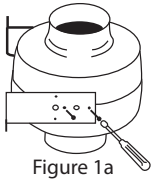
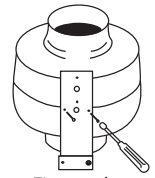
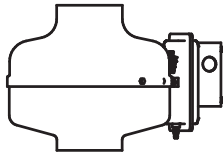
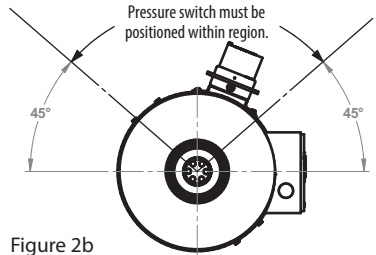

Figure 1a
Figure 1b
Figure 2a
Figure 2b
Attach mounting brackets to the fan housing (Figure 1a or Figure 1b). Please note the airflow direction arrow located on the box cover. Secure the fan to a support at the selected location. If mounting vertically (Figure 2a), ensure the nipple connection on the pressure switch is facing downwards. If mounting horizontally (Figure 2b), the pressure switch must be positioned within the region shown. Ensure the terminal box is positioned for easy access.
3. Verify the pressure switch is oriented according to Figure 2a or 2b and the tubing is not crimped.